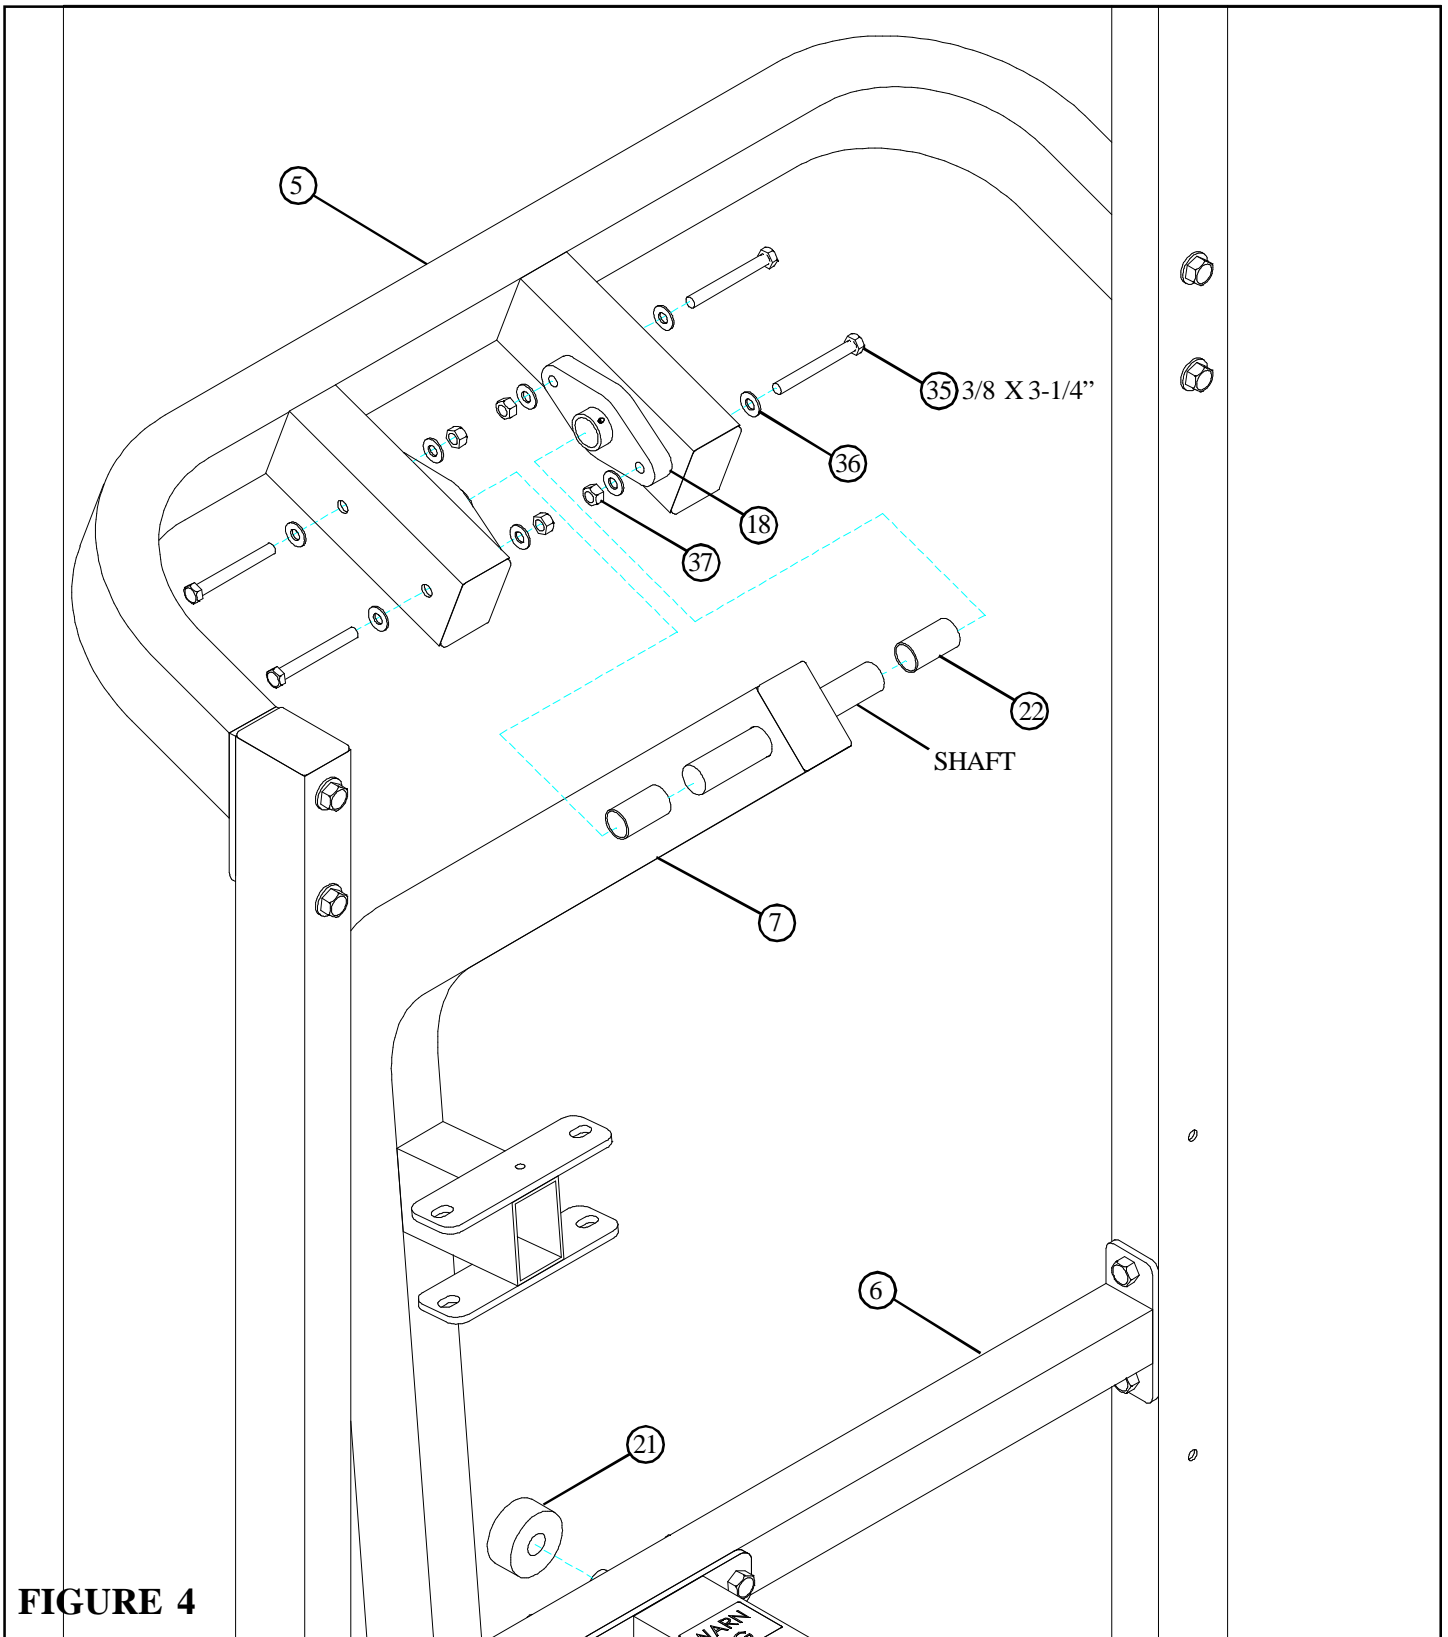

FIGURE 4
- Slide one RUBBER BUMPER (21) over the short round tube on the PIVOT FRAME (6) as shown in FIGURE 4.
- Slide two 1-3/4" VINYL SLEEVES (22) over the shafts on the PIVOT ARM (7) as shown in FIGURE 4.
- Slide two PILLOW BLOCKS (18) over the shaft on the PIVOT ARM (7) and **SECURELY** assemble the two PILLOW BLOCKS (18) to the UPPER CROSS SUPPORT (5) using four 3/8 X 3-1/4" BOLTS (35), four 3/8" WASHERS (36), and four 3/8" LOCK NUTS (37) as shown in FIGURE 4.
- Center PIVOT ARM (7) and securely tighten set screws on the PILLOW BLOCKS (18). See FIGURE 4.